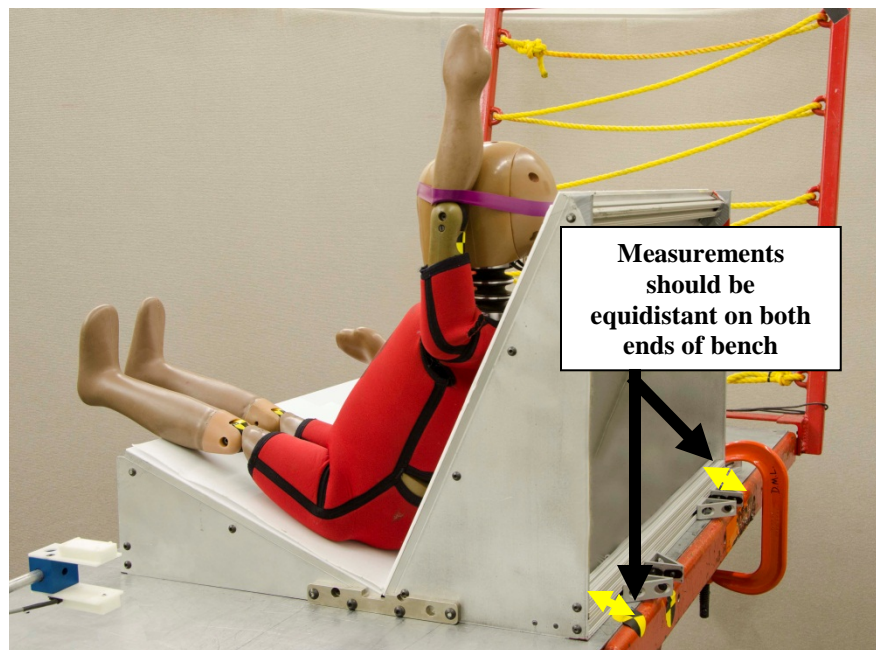

Figure 134. Checking that the bench is square
- Figure 134 shows the final setup for the dummy.